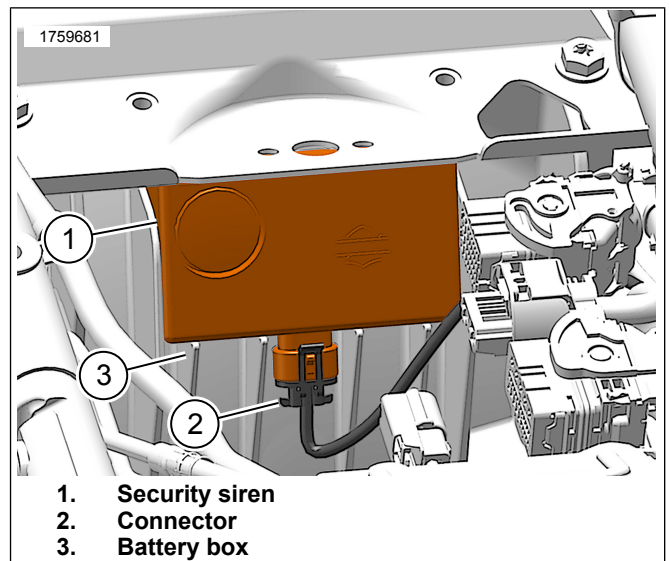

Figure 20. Security Siren (typical)
9. See Figure 20. Install Security siren.
- a. Place security siren (1) on fins in battery box (3).
- b. Connect connector (2).